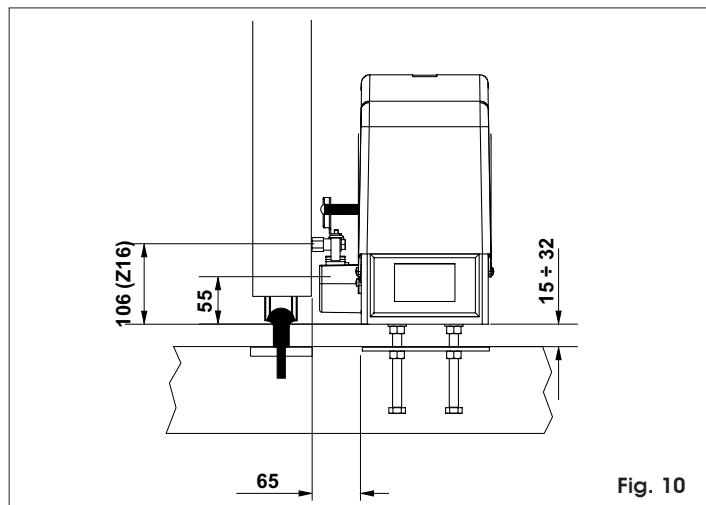

Fig. 10
- Adjust the height of the feet and the distance from the gate, referring to Fig.10. NB.: this operation is necessary to ensure the rack is correctly secured and to enable any new motor height adjustments in the future.